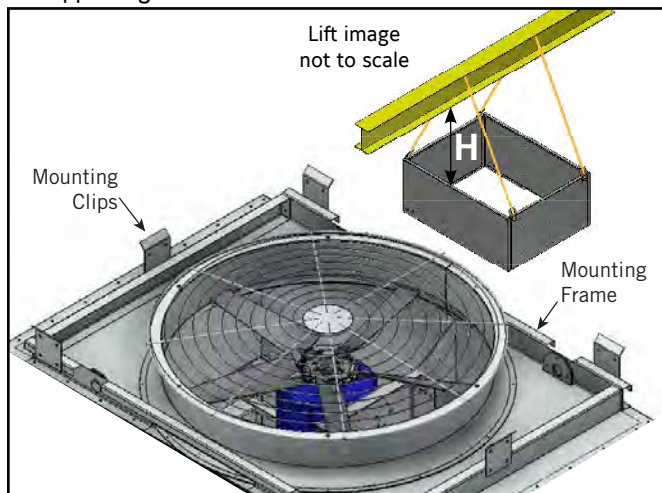

Figure 14 - Sound Attenuation Clip Placement And Lift
1. Verify the mounting frame and clips are factory installed as shown in Figure 14.